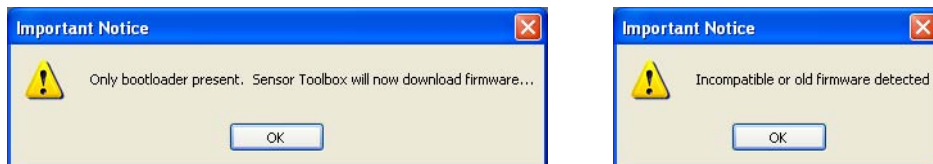

Figure 2. Incompatible or old firmware messages
- a) If the Sensor Toolbox board does not have the compatible firmware flashed, one of two notification windows in Figure 2 will be displayed.